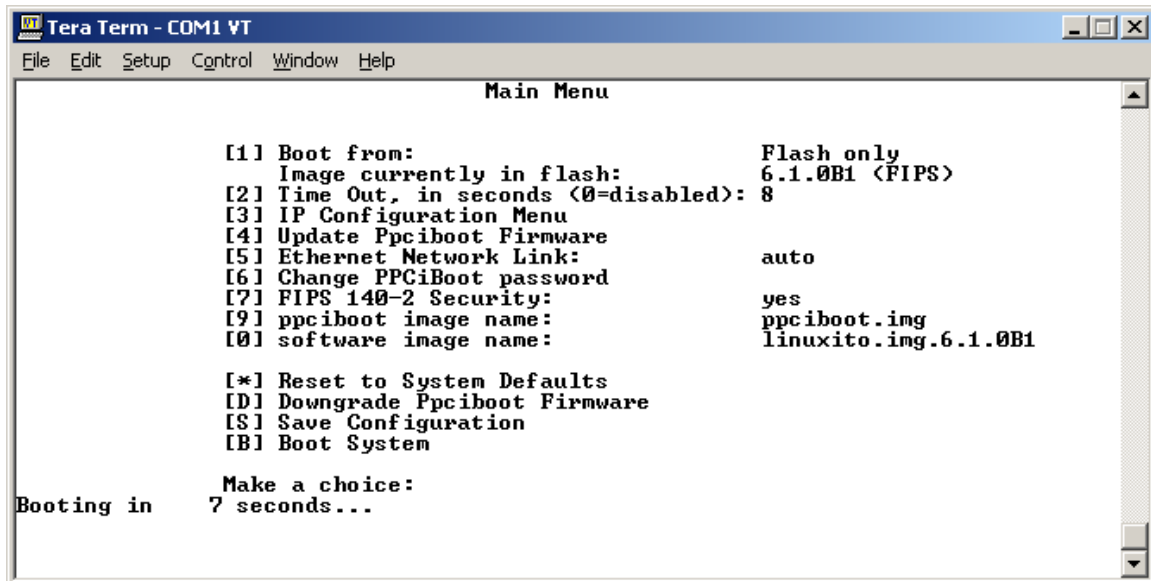

Figure 5 Boot Selection Screen
When FIPS 140-2 Security is enabled via the PPCiboot Option [7] (See Figure 5 Boot Selection Screen), Option [1] Boot from Network is set to *Flash only* automatically. You can only update the images from operational environment while FIPS 140-2 is enabled. Option [4] *Update PPCiboot Firmware* is disabled when FIPS 140-2 is enabled.
1. Referring to Figure 5, select the number 6 (Change PPCiboot Password). The following prompt is displayed: